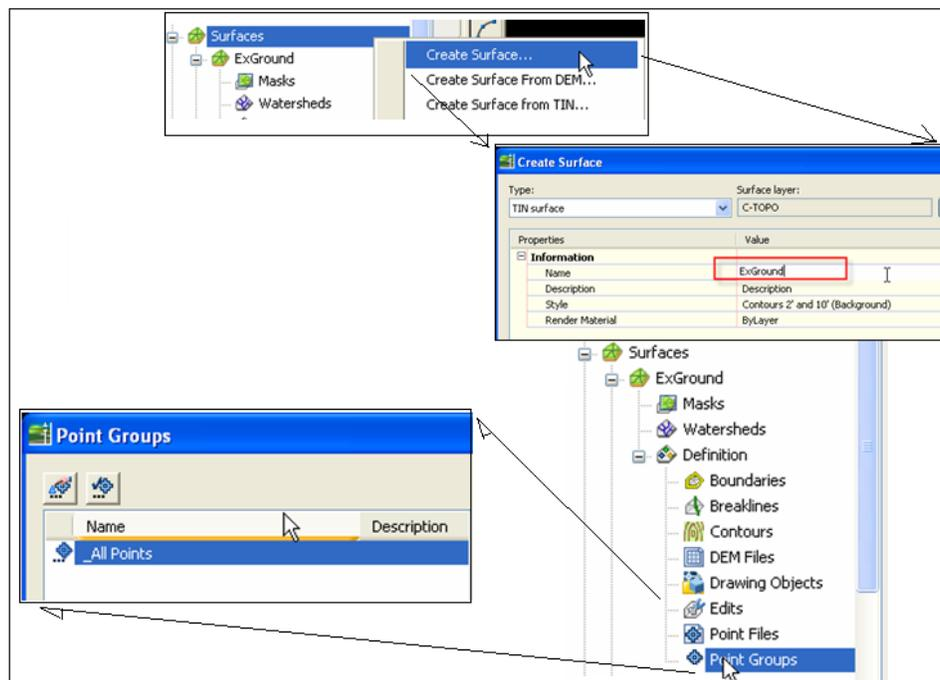

Figure 1: Creation of Surface from Points Example
**Survey data preparation:** In Civil 3D®, field survey book can be reviewed in a text editor, survey data can be edited in the Survey Toolspace, the correct (or corrected) field book file can be imported to the graphic environment where survey network can be created to accommodate survey data, and later points, figures, and surfaces can be created from the field data. After the field file is being edited and points are created, a digital surface can be created from the survey points. This is done by selecting “Surfaces” from Civil 3D® main menu, selecting “Create surface” and assigning a name, and then specifying whether “all of” the points “or subset of it” are to be used to create the surface (Figure 1). The resulted surface properties can be modified by direct editing, by assigning a contour style, and/or by applying surface labels. The surface can then be exported to GE, or an image can be imported from GE and draped onto the surface (Asnani, 2007).